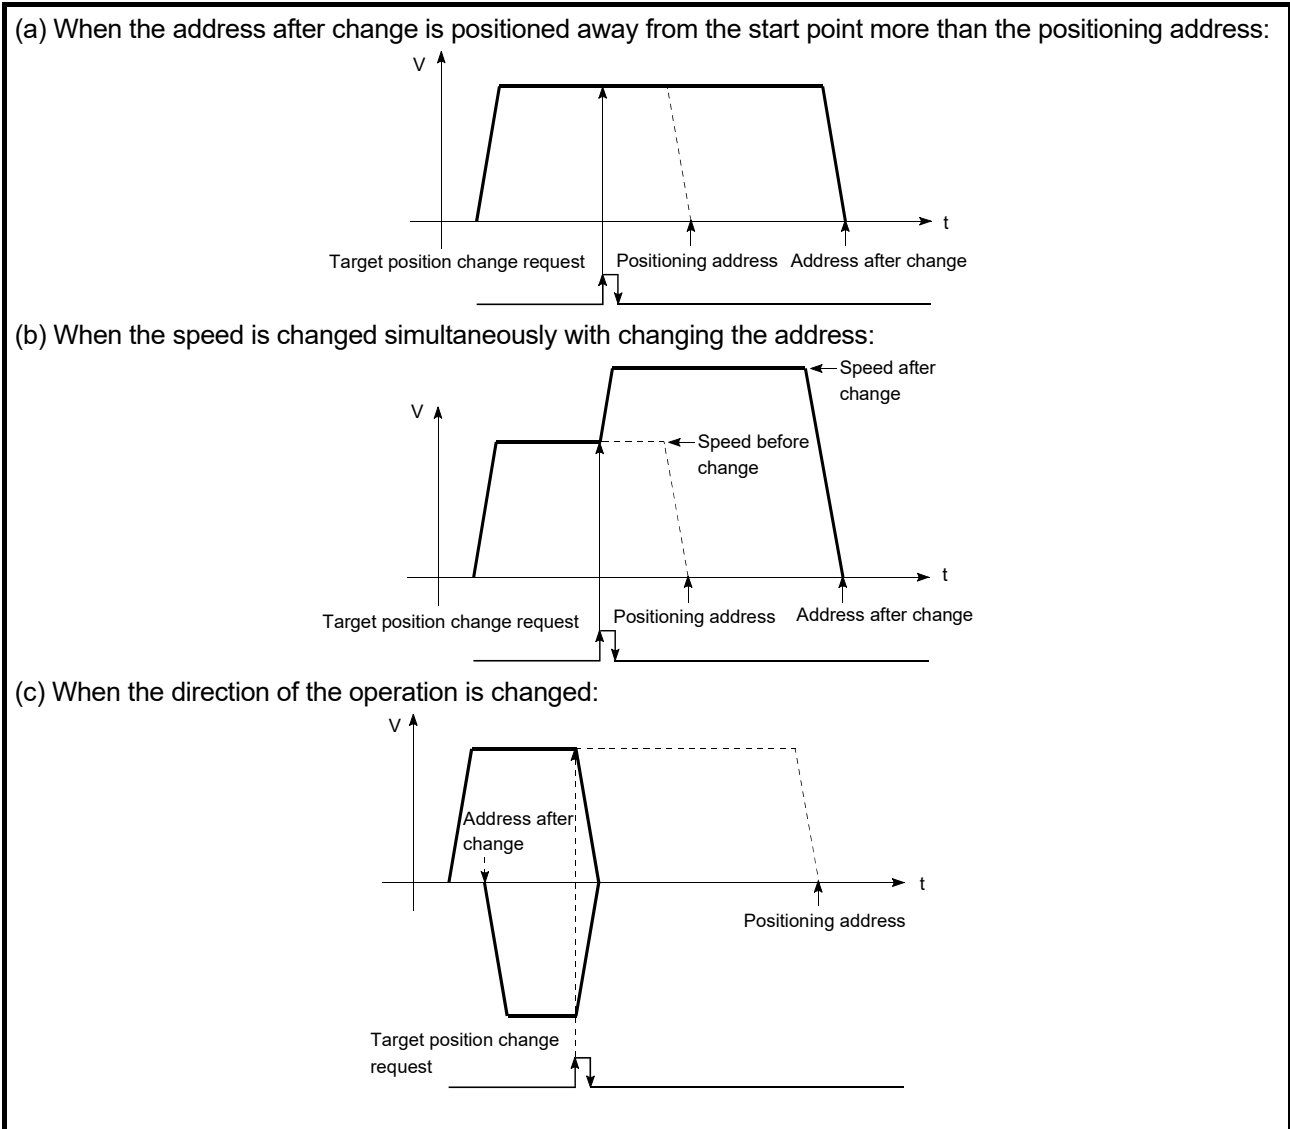

Fig. 13.31 Target position change operation
- (1) If the positioning movement direction from the stop position to a new target position is reversed, stop the operation once and then position to the new target position. (Refer to Fig. 13.31 (c).)
- (2) If a command speed exceeding the speed limit value is set to change the command speed, the warning "Speed limit value over" (warning code: 501) will occur and the new command speed will be the speed limit value. Also, if the command speed change disables the remaining distance to the target value from being assured, the warning "Insufficient remaining distance" will occur (warning code: 509).
- (3) In the following cases, a target position change request given is ignored and the warning "Target position change not possible" (warning code: 518) occurs.
- (4) When a command speed is changed, the current speed is also changed. When the next positioning speed uses the current speed in the continuous positioning, the next positioning operation is carried out at the new speed value. When the speed is set with the next positioning data, the speed becomes the current speed and the operation is carried out at the current speed.
- (5) When a target position change request is given during automatic deceleration in position control, positioning control to a new position is exercised after the axis has stopped once if the moving direction is reversed. If the moving direction is not reversed, the axis is accelerated to the command speed again and positioned to the new position.
- (6) If the constant speed status is regained or the output is reversed by a target position change made while "Md.48 Deceleration start flag" is ON, the deceleration start flag remains ON. (For details, refer to Section 13.7.8.)